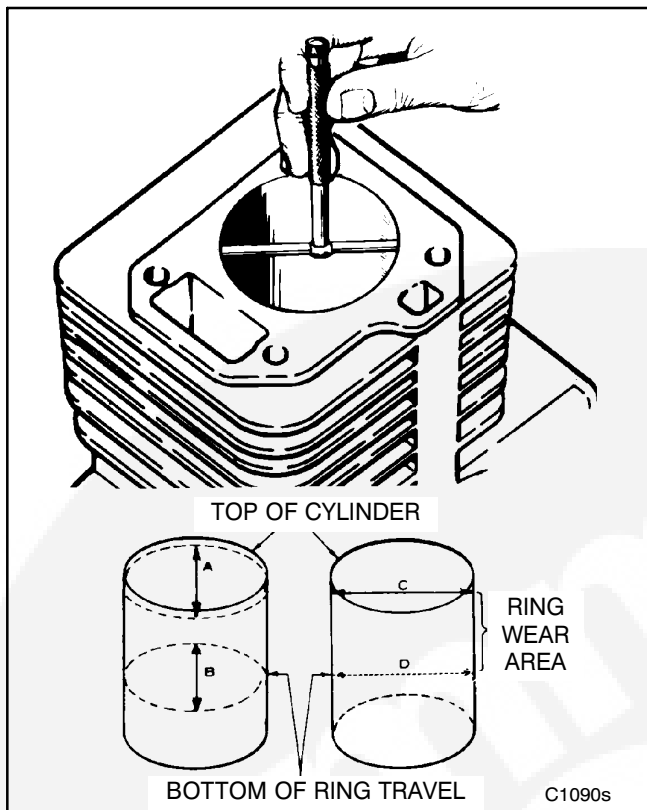

FIGURE 10-27. METHODS OF MEASURING THE DIAMETER OF A CYLINDER BORE
2. Record measurements taken at top and bottom of piston travel as follows (see Figure 10-27).